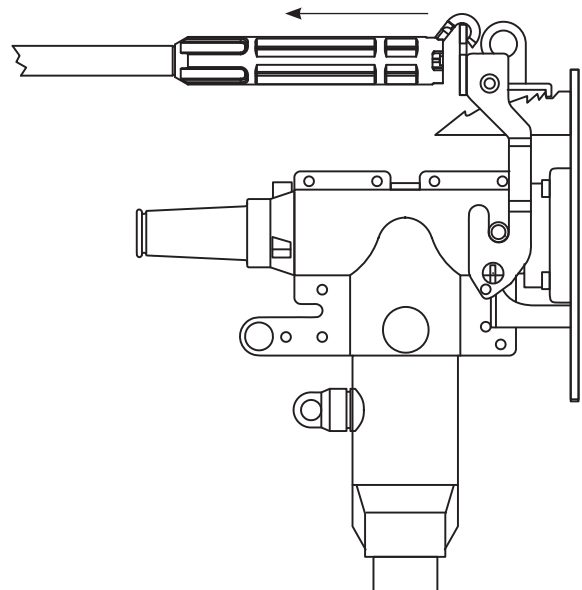

Figure 13b. Check latch engagement.
- Pull on push plate with clampstick to ensure latch plate is engaged. (Refer to Figure 13b.)